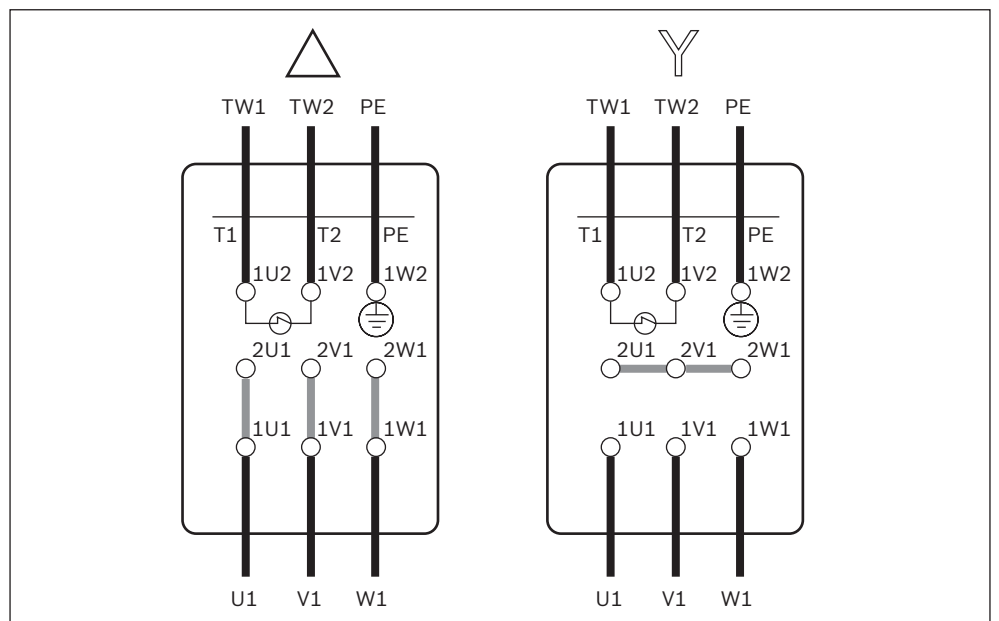

Fig. 8 Delta/wye connection diagrams
- Connect the motor in either a wye or a delta configuration in accordance with the wiring diagrams, see Fig. 8 on page 23, and the wiring diagram in the terminal box.
- ▶ Switch any two wires (U1, V1 or W1, see Fig. 8 on page 23) to change the motor's rotational direction.